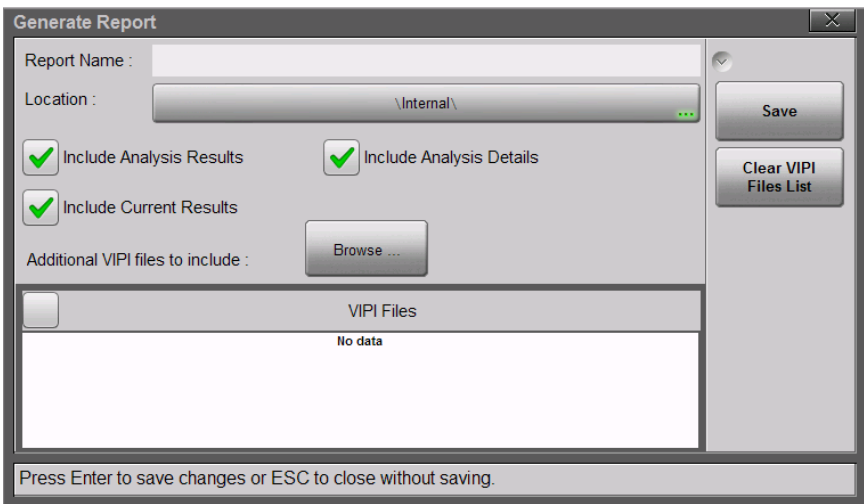

Figure 15-10. Generate Report Dialog
5. Press the **Generate Report** submenu key to open the dialog box in Figure 15-10.